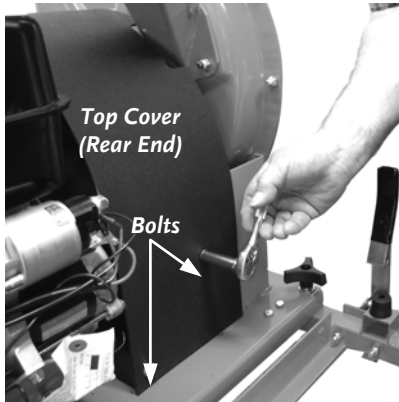

Figure 48a
1. Using a 7/16" Socket, remove the four (4) 1/4" Bolts and Flat Washers that retain the Belt Guard Top Cover and Side Guard. There are two (2) Bolts on each end of the Top Cover (**Figures 48a & 48b**).